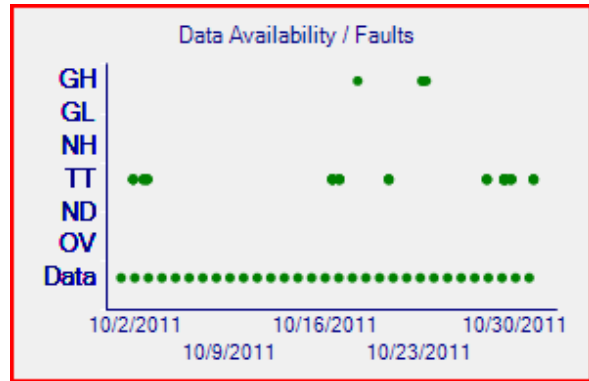

Fig. 21. Lane Snapshot – Data Availability/Faults Plot
The Data Availability/Faults plot (Fig. 21) shows the date for which daily files were present; the daily files, if any, that were oversized (OV) or empty (ND); and the dates on which each fault condition occurred. The user can zoom in on any region by clicking and dragging the mouse over the region of interest. To exit the zoomed-in view, click the circles at the left and/or top of the graph axes.